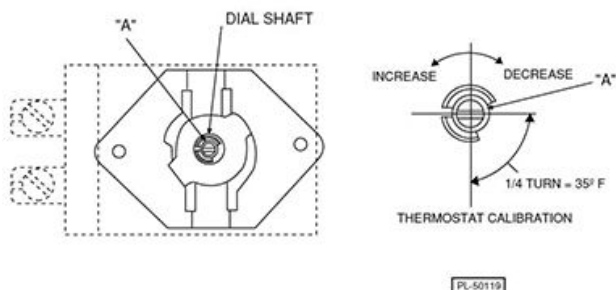

Fig. 141
- Pull dial straight off dial shaft without turning (Fig. 141).
- Turn screw "A" clockwise to decrease temperature and counterclockwise to increase temperature (Fig. 141); 1/4 turn of Screw "A" represents a temperature shift of 35°F.